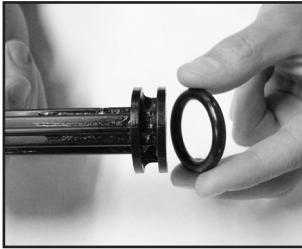

Figure 4
3. Inspect o-ring. If worn or damaged, remove and replace. Lubricate o-ring with petroleum jelly. (See Figure 4).